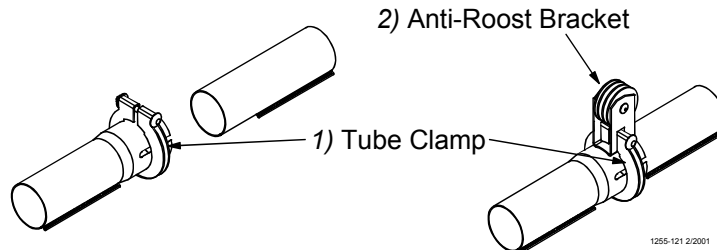

Figure 42. Tube Clamp and Tube Clamp with Anti-Roost Bracket
4. Place a Tube Clamp Assembly or Clamp/Anti-Roost Bracket at each joint. Figure 42. shows the standard Clamp and Clamp/Anti-Roost Bracket.